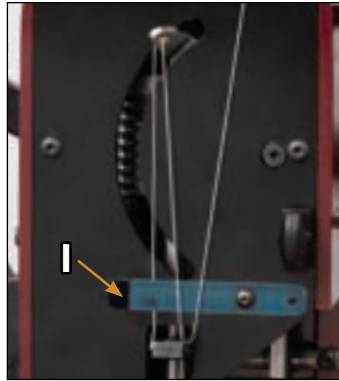

Figure 10
- 5) Run thread back down and behind the Tension Bar (I). (Figure 10)